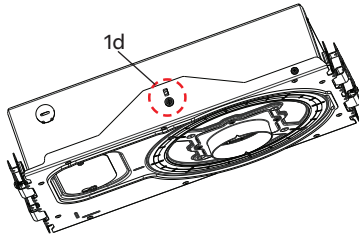

fig. 5
- d. Use the provided fastener and washer to fasten the butterfly bracket with a 1/4 in (6 mm) socket driver (see fig. 5).